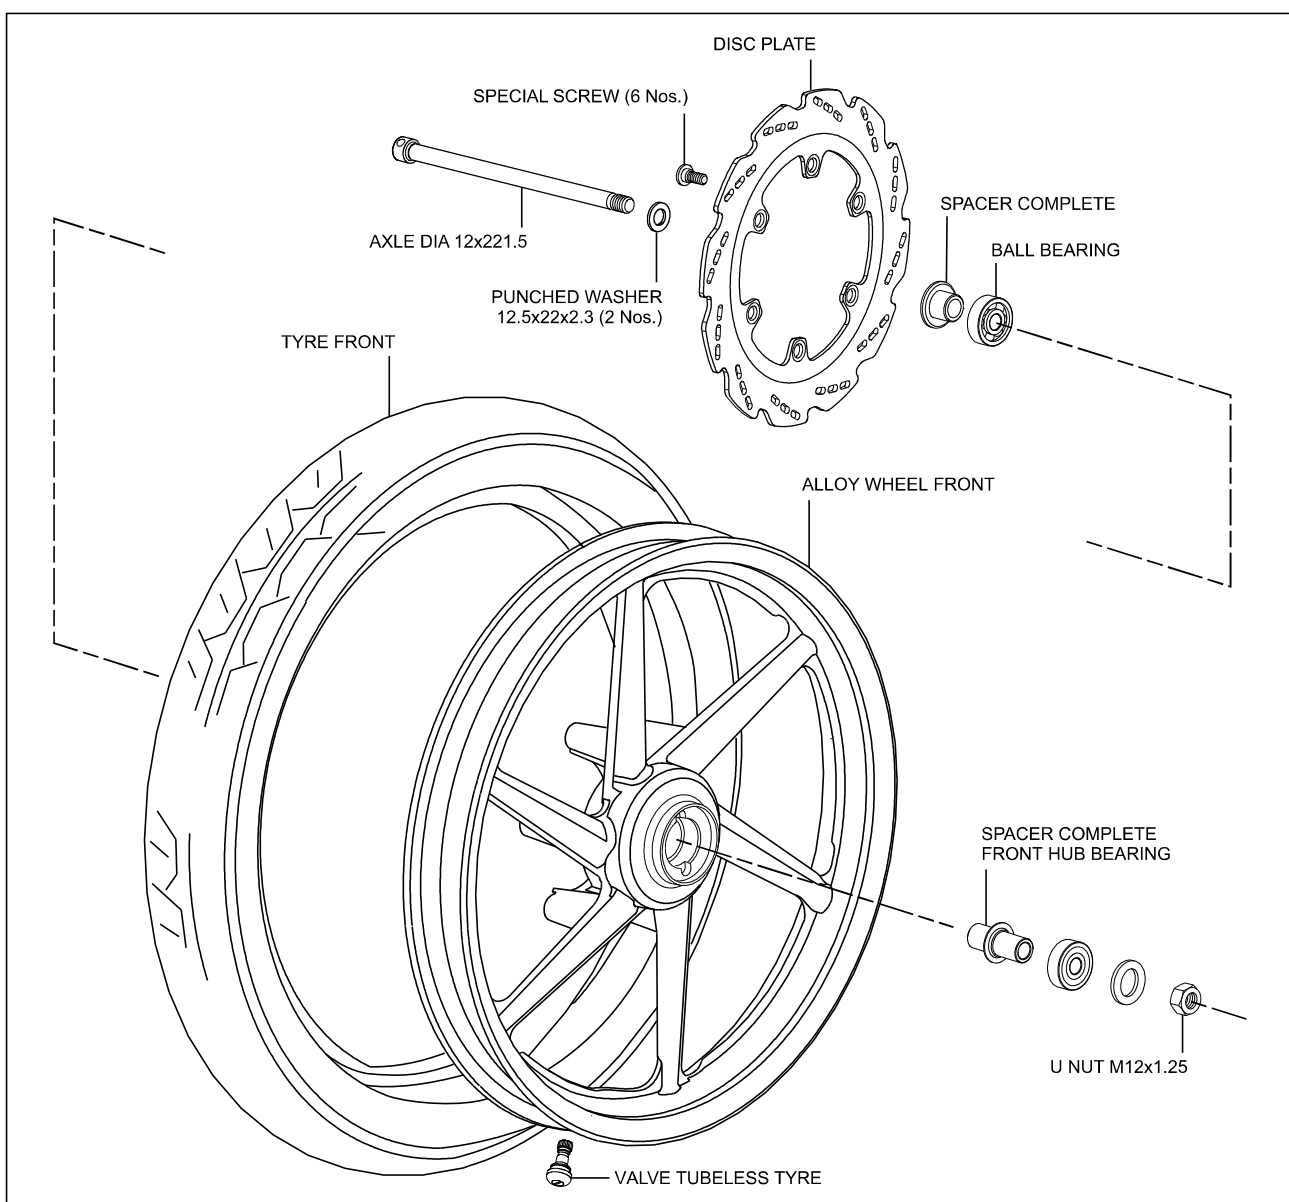

Fig. 6.12
- Refer the exploded view for details. (Fig. 6.12)